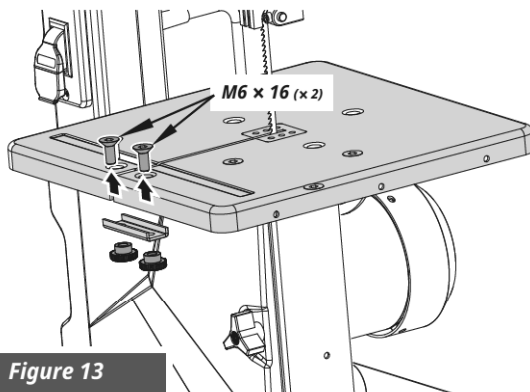

Figure 13
1. Loosen the 2 knurled screws and remove the U shape blocker. (See Figure 13)